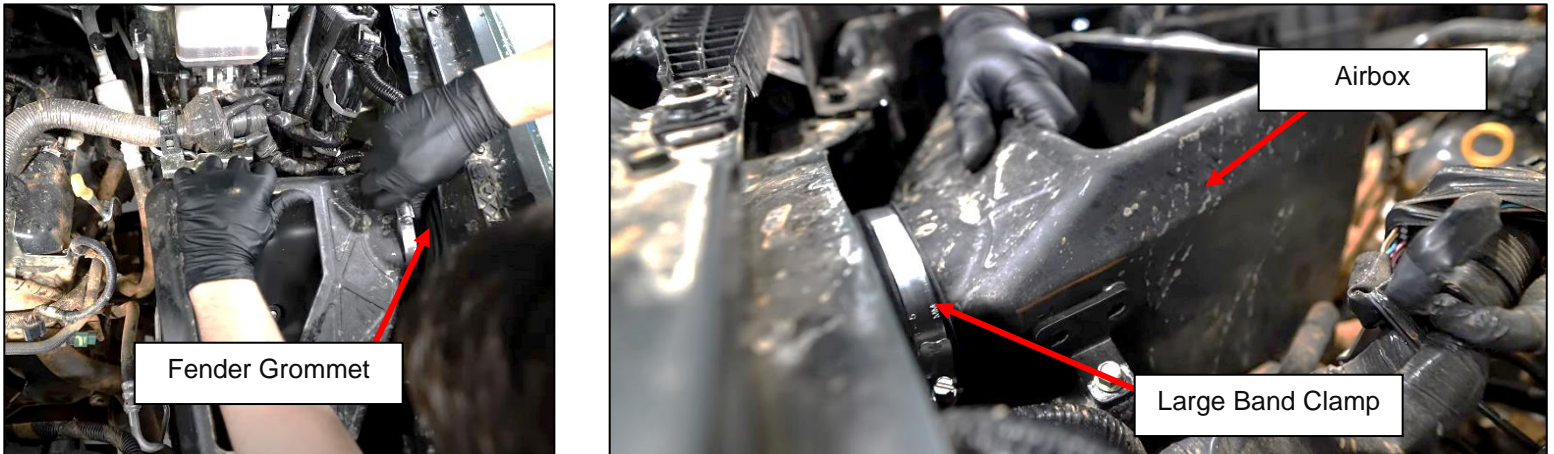

Figure 21
31. Locate your Z1 Airbox and the Large Band Clamp. Place the Large Band Clamp on the Fender Grommet installed in *Step 28*. Reinstall the Z1 Airbox and fit it to the new Fender Grommet as shown. Once positioned, tighten the Large Band Clamp, securing the Airbox in place. *Figure 21*.